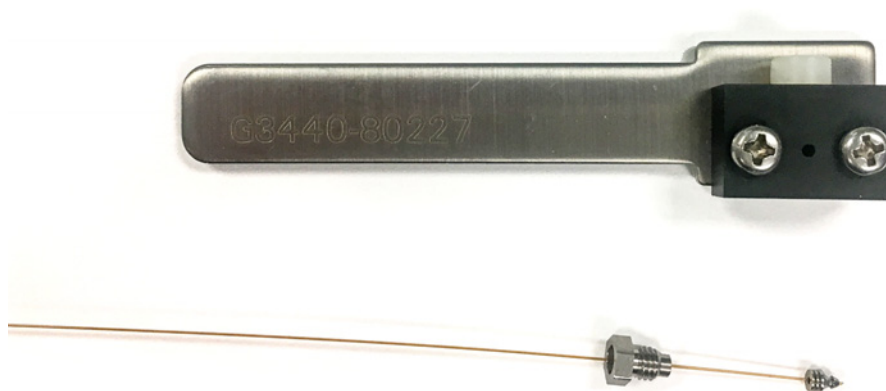

Figure 7. Thread the column through the internal nut, ferrule, and swaging tool
- 3 Pass the column end through the internal nut and the ferrule, as shown in **Figure 7**.